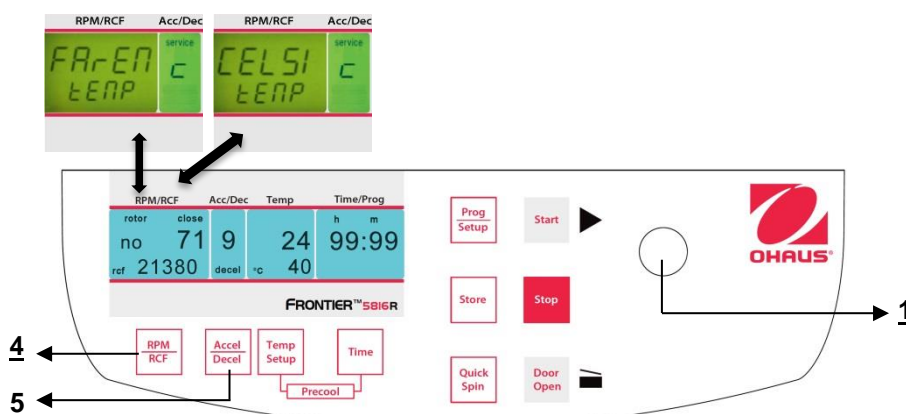

Figure. 31
Proceed as described under point 4.1.1 to enter this program mode and then press the key **"Accel/Decel"** (5). In the display **"Acc/Dec"** (A-2) the word **"Service"** appears. Now select the letter **"C"** with the adjusting knob (1). As a result, in the display **"RPM | RCF"** (A-1), the words **"CELSI/temp"** appear. If you press the key **"RPM | RCF"** (4), the word **"CELSI"** flashes and you can change the display into Fahrenheit **"FAREN"**, with the adjusting knob (1) (See figure 31).